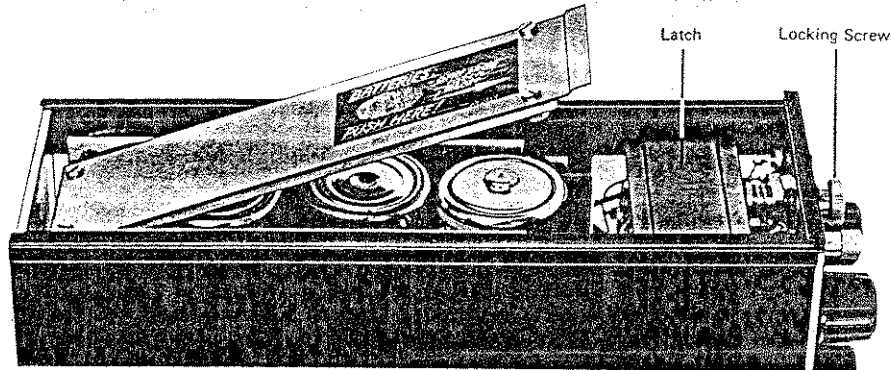

Fig.3.1. Battery compartment of the 2635
The battery compartment of the 2635 is shown in Fig.3.1. To fit dry cells QB 0004 or rechargeable nickel cadmium cells QB 0008 proceed as follows:
2. Release the lid of the battery compartment by pressing the front of the lid down and sliding its latch towards the front of the instrument. See Fig.3.1.